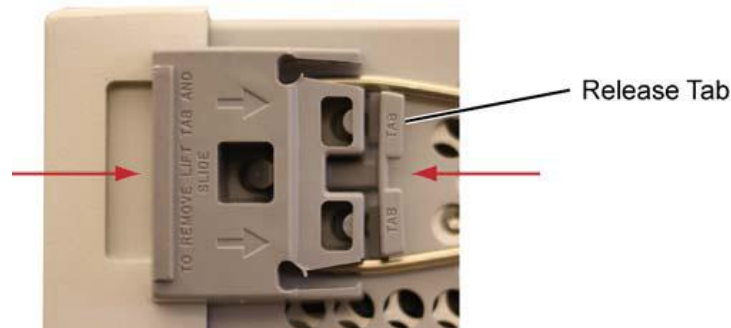

Figure 6. Release Tab
7. Push the foot's release tab in the direction indicated in Figure 6 and remove the foot